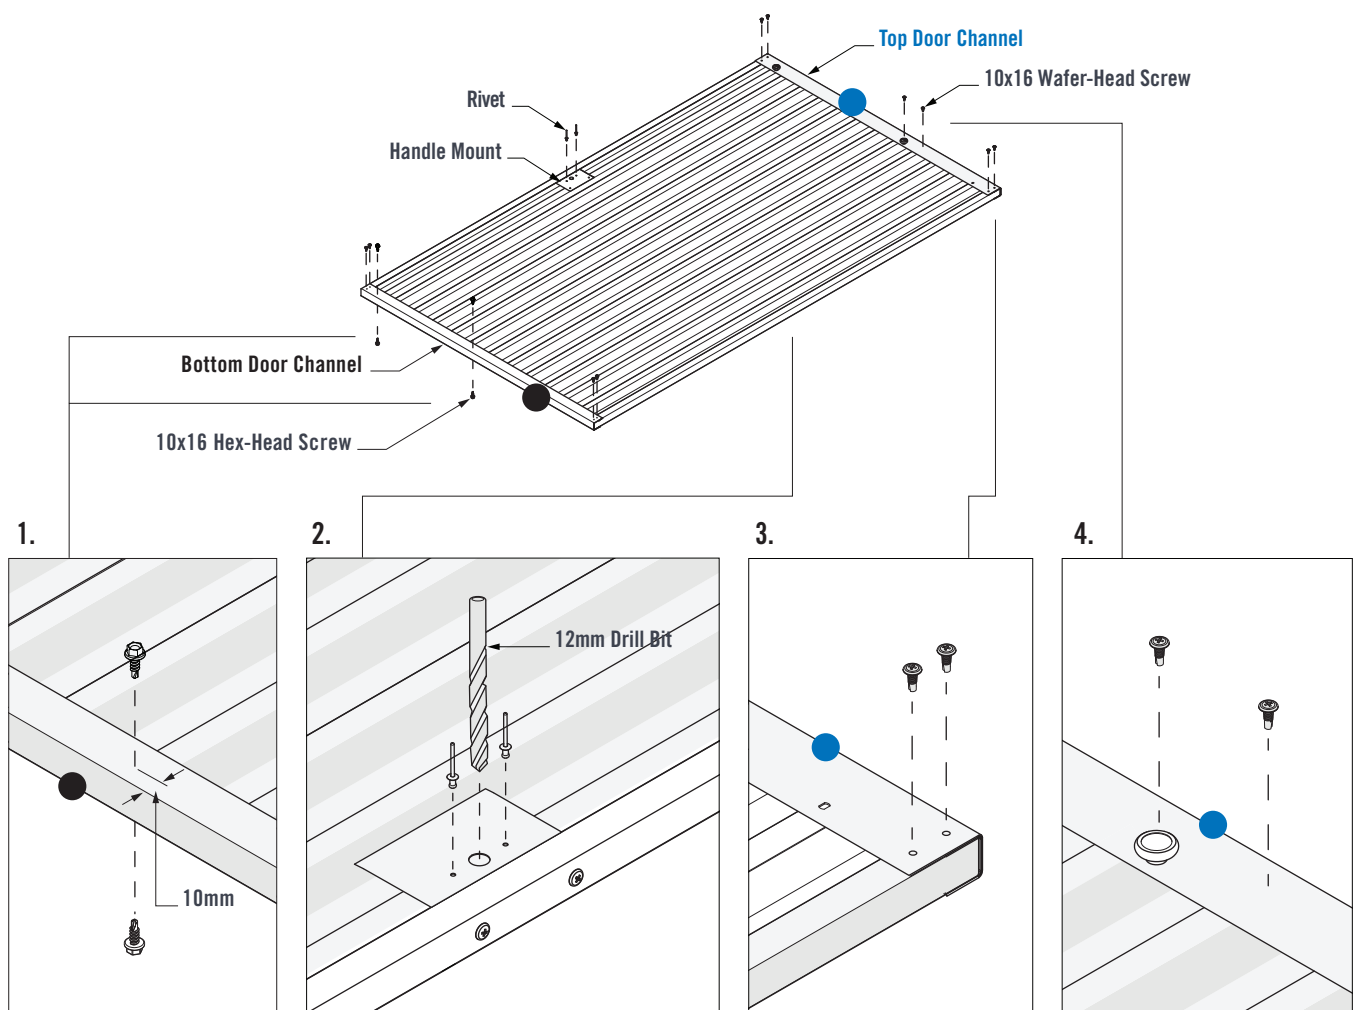

FIGURE 5.6
1. Fasten a 10x16 Hex-Head Screw into the mid-point of the Bottom Door Channel. Ensure the screw is fastened approximately 10mm from the bottom face of the Channel. Fasten a 10x16 Hex-Head Screw near the Handle Mount end of the Bottom Door Channel. Flip over the Door Assembly so that the underside is now facing up. Fasten two more 10x16 Hex-Head Screws in the same manner on the opposite side of the Bottom Door Channel (Figure 5.6).
2. Fasten two 10x16 Wafer-Head Screws through pilot holes in the Handle Mount and into the Door Sheet. Using the holes in the Handle Mounts as a guide, drill a  $\varnothing 3.5$ mm pilot hole, then  $\varnothing 12$ mm hole through the Wall Sheet (Figure 5.6).
3. Fasten two 10x16 Wafer-Head Screws through pilot holes in the Top and Bottom Door Channels and into the Vertical Door Channels at all four corners (Figure 5.6).
4. Fasten a 10x16 Wafer-Head Screw through the Top Door Channel and into the two Sheet Crests on both sides of the Door Wheel (Figure 5.6).